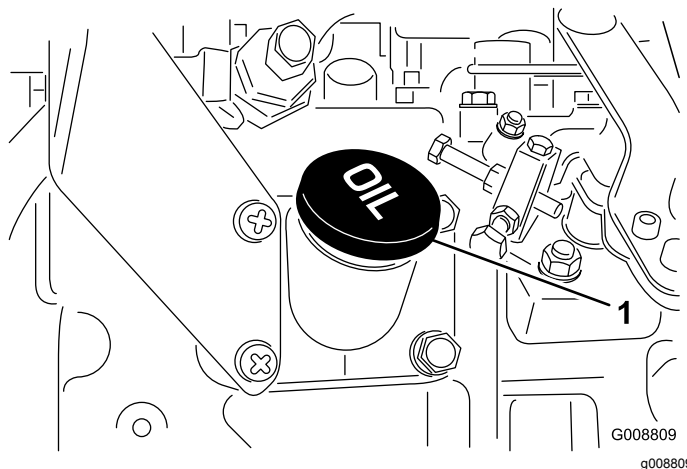

Figure 15
4. If the oil is below the safe range, remove the fill cap (Figure 15) and add oil until the level reaches the FULL mark. **Do not overfill.**